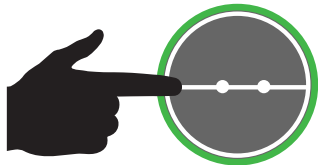

Figure 59. Main Circuit Breaker ON Button
- Press the **Main Circuit Breaker ON button** (Figure 59).